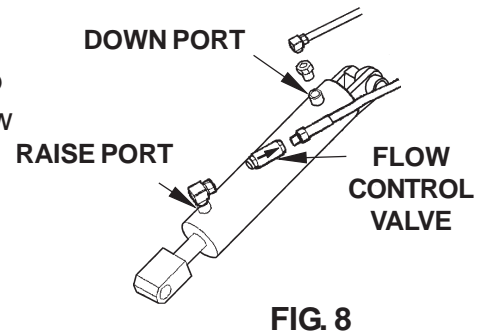

FIG. 8
2. Check the Hydraulic Cylinder. With the Platform on the ground, remove the hydraulic line from the Down Port of the Cylinder (**FIG. 8**). Raise the Platform even with the bed. Allow pump motor to run two seconds more while you watch for hydraulic fluid at the Down Port. A few drops of hydraulic fluid escaping the Down Port is normal; however, if it streams from the Down Port, Piston Seals are worn. Replace Seals.
3. Check and clean Flow Control Valve (**FIG. 8**) in high pressure hydraulic line attached to Cylinder. When installing Flow Control Valve make sure arrow on valve is oriented as shown in **FIG. 8**.